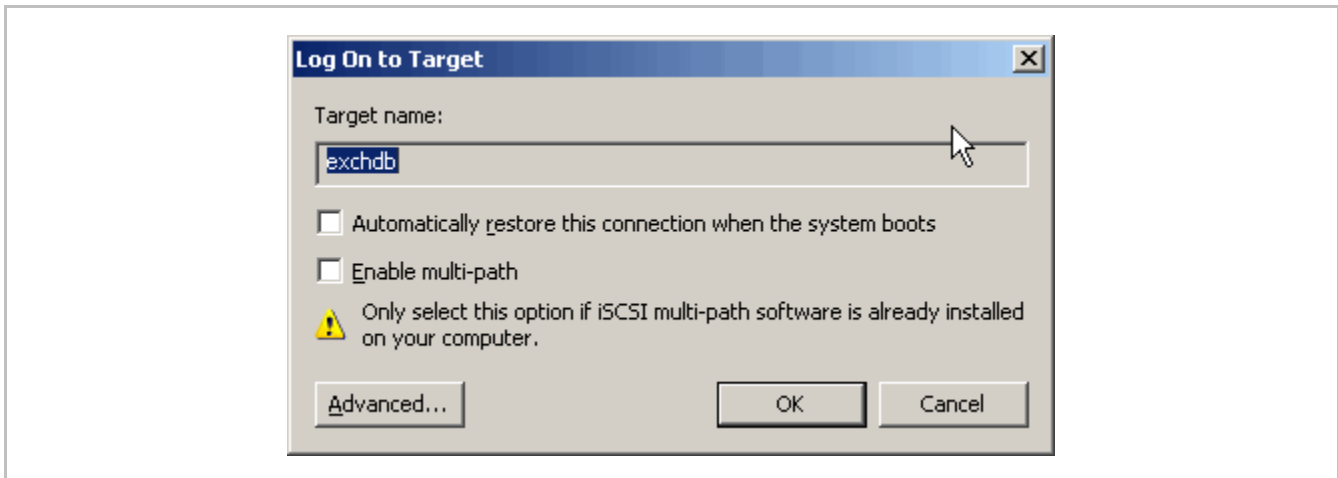

Figure 12. Configure Multi Connections – Log On Window
The Log On to Target Window appears (Figure 12).
6. Click OK (Figure 12).